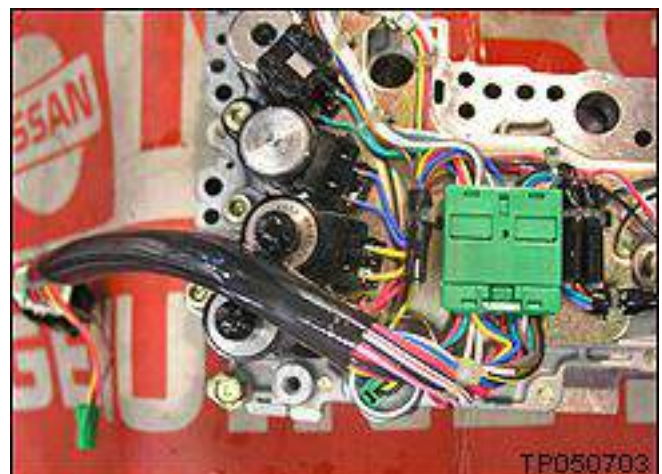

Figure 13
16. Route the harness around the outside of the Valve body as shown (see Figure 13).